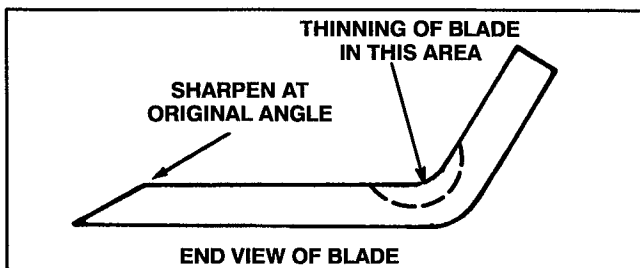

Figure 22
5. Using a file, sharpen cutting edge at both ends of the blade (Fig. 22).
Check cutter blade every time cutting unit is removed. If blade bolt holding blade is loose, tighten it to 45-60 ft-lb (61-81 N·m). If blade or sail (Fig. 22) at end of blade is worn, eroded or cracked, replace the blade. Replace the blade if it is bent or out-of-balance. Always use a genuine TORO replacement blade to ensure safety and best performance. **NEVER USE A WILL-FIT REPLACEMENT BLADE.**